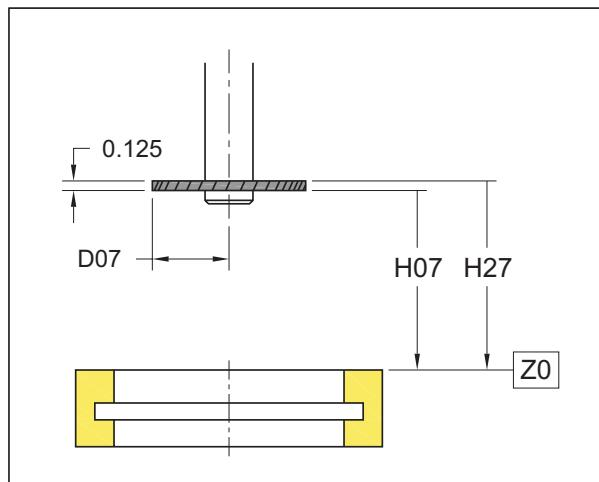

Figure 19-13
*Figure 19-13* shows that *two* reference positions are used for the same tool. For this reason, the program requires *two* tool length offsets, H07 and H27 in the illustration. D07 is the cutter radius offset, and 0.125 is the slotting mill width.